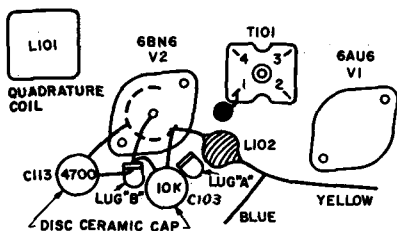

Fig. 14 - Arvin
**Preventing interference due to 6BN6 radiation (see Fig. 14).**